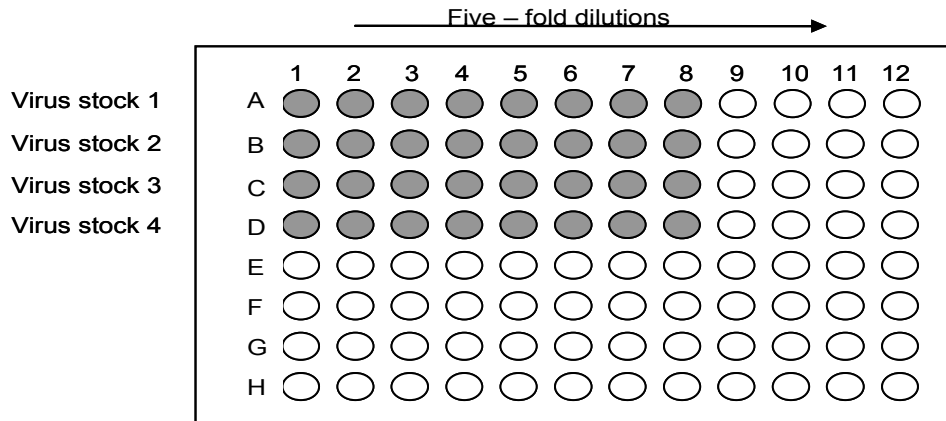
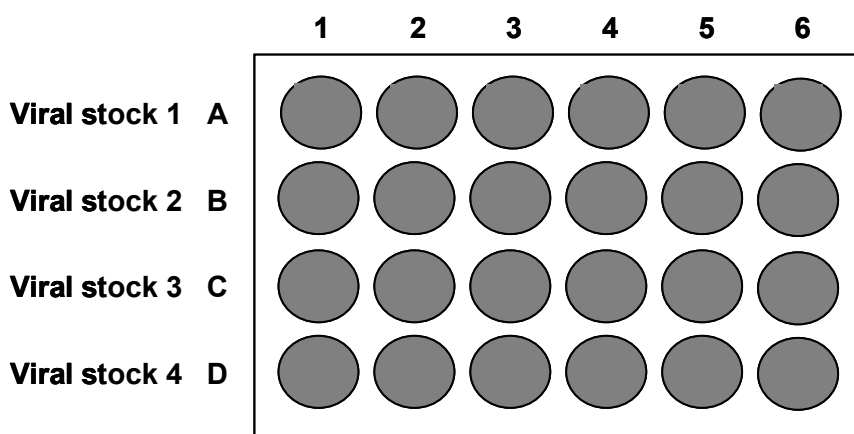

Figure 2. Five-fold serial dilutions of virus stock.
Figure 3. Twenty four well tissue culture plate, seeded with TLA-HEK293T™ cells, used to titer the virus.
2. Make dilutions of the viral stock in a round bottom 96 well plate using serum-free media. Utilize the plate as shown in Figure 2 using one row for each virus stock to be tested. Use the procedure below (starting at step 4) for dilution of the viral stocks. The goal is to produce a series of 5 fold dilutions to reach a final dilution of 390625 fold.
8. Label 24 well plate as shown in Figure 3 using one row for each virus stock to be tested.
11. Transduce cells by adding 25µl of diluted virus from the original 96 well plate (in Figure 2) to a well on the 24 well destination plate (in Figure 3) containing the cells.